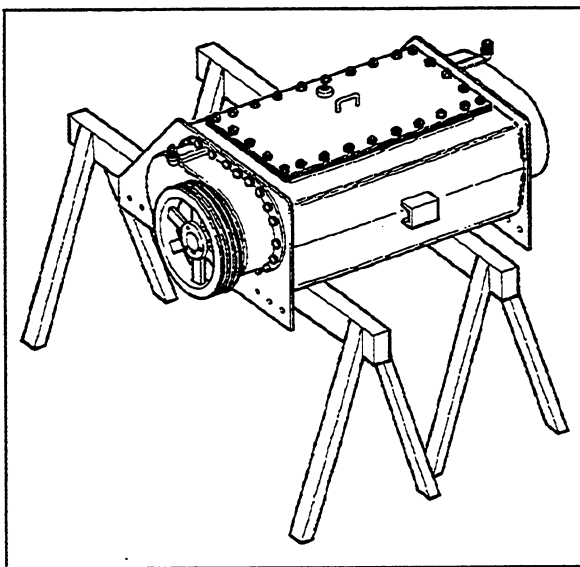

Figure 4-1. Vibrating Unit on Supports
5. Place vibrating unit on suitable supports as shown in Figure 4-1.